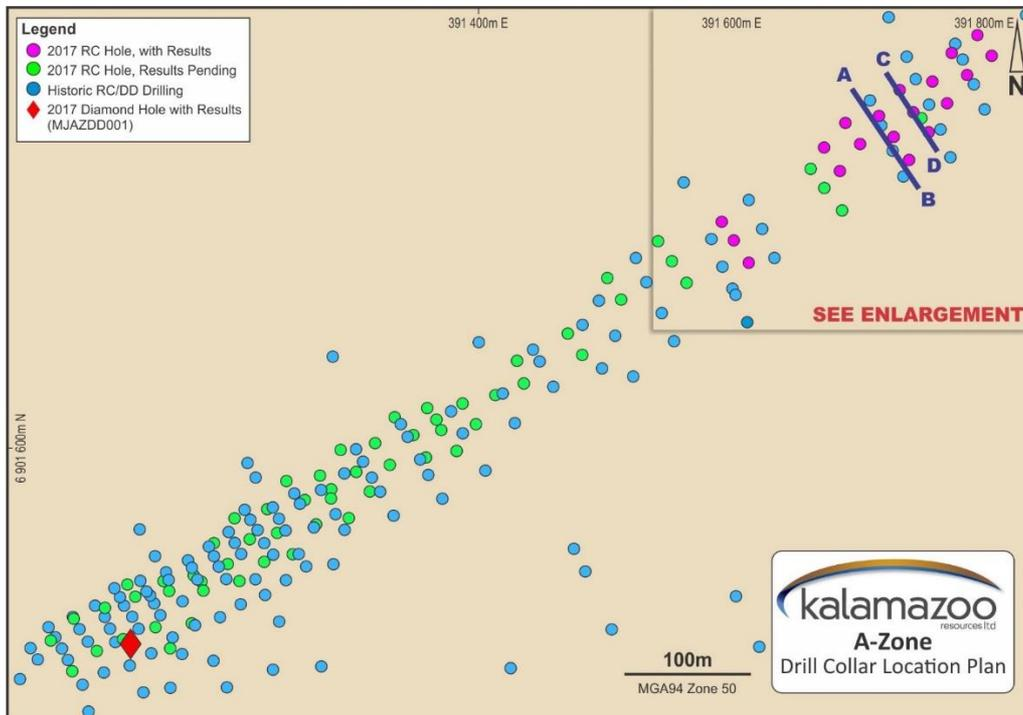
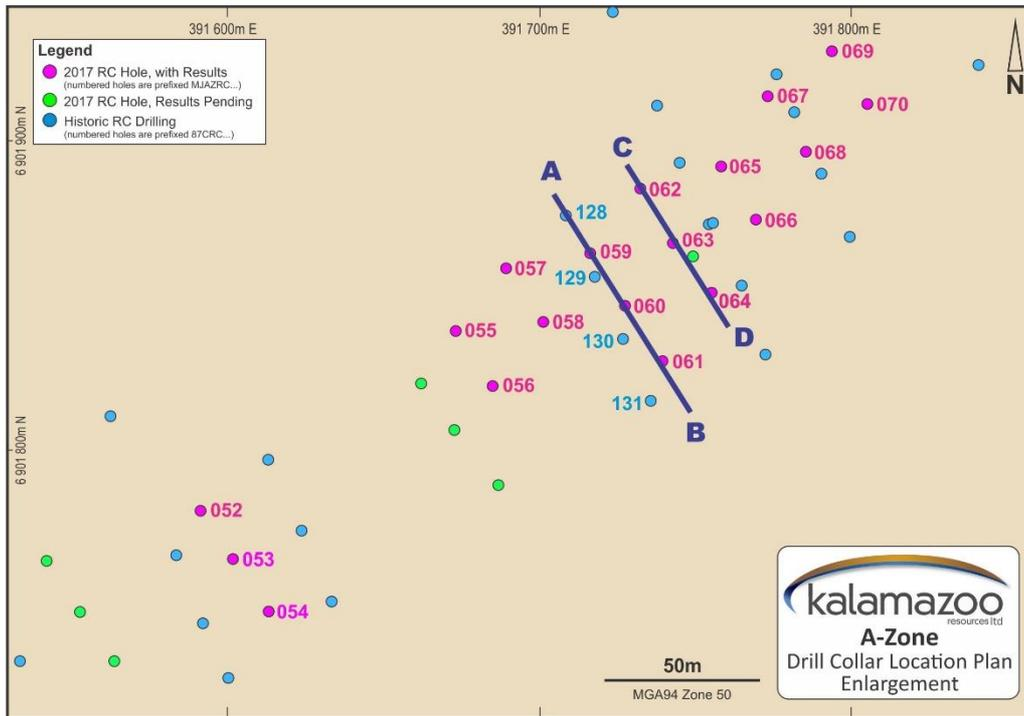
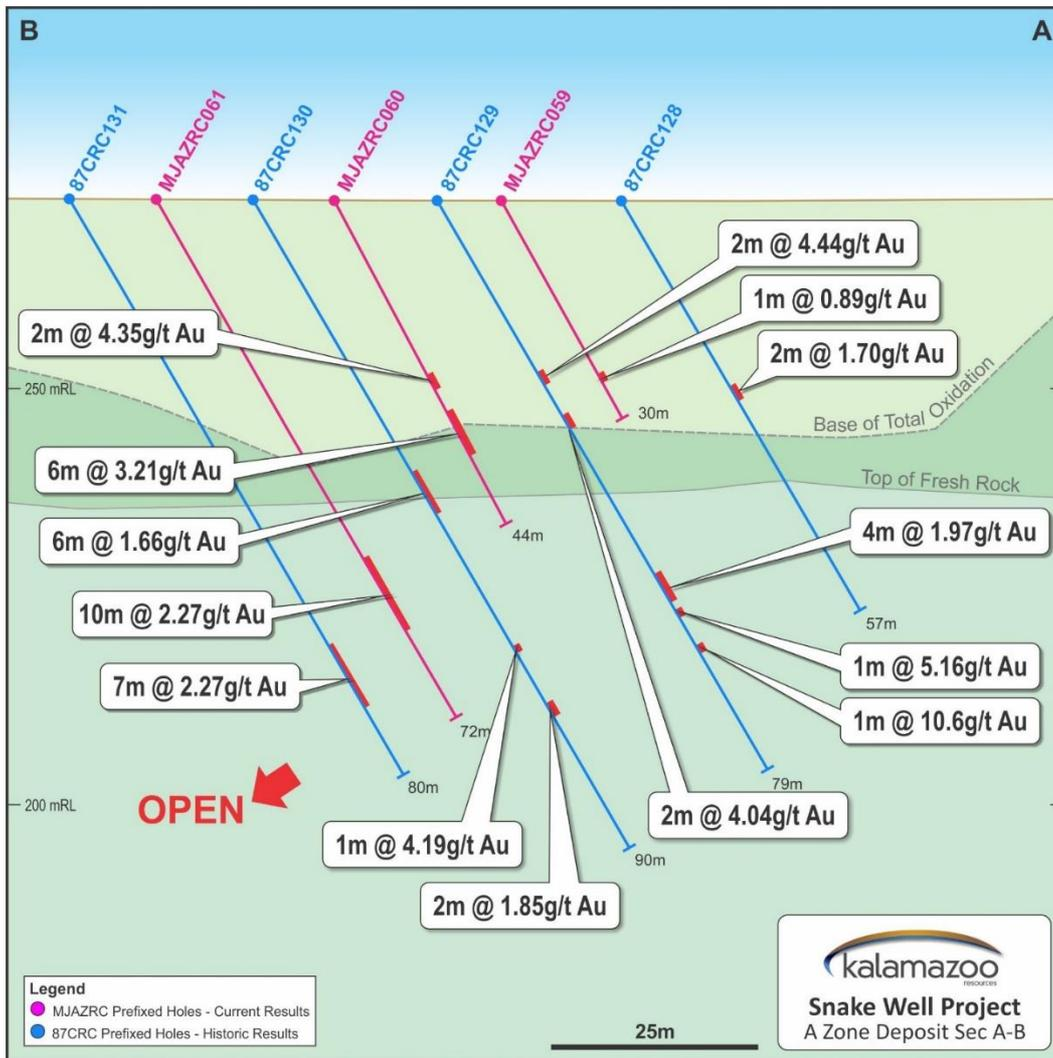

Figure 2: Drill collar location plan of both historical and recent holes.
Figure 3: Enlargement of north-east A-Zone drill collar location plan of both historical and recent holes.
Figure 4: A-Zone Cross Section A-B looking west
This first round of results come from the northeastern end (Figure 2) of the A-Zone gold project. The results of the first 20 drill holes (19 Reverse Circulation (RC) and one diamond drill indicate several significant intersections of gold mineralisation have been intercepted, generally supporting the position and tenor of gold grades indicated by the historical drilling (Refer to Table 1 and Figures 2 to 5).
Mineralisation at greater than 0.5 g/t gold is present in a series of elongate lenses over a surface strike of 1.2 kilometres and the sub-parallel lenses dip to the southeast (Figures 4 and 5). Locations for the 75 completed RC drill holes are shown in Figure 2, while Figure 3 indicates the holes reported in today's announcement in more detail.
Cross sections A-B and C-D are displayed in Figures 4 and 5 respectively, illustrating a representative portion of results reported here. The section locations are shown in Figures 2 and 3. Section A-B shows that the new drilling supports the spatial location and gold tenor as previously intersected in historical drilling.